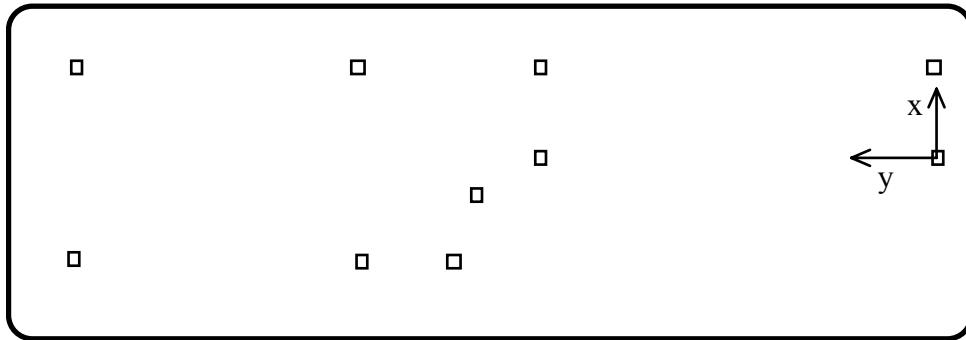

Figure 2.3. Key points in the x-y plane. Note that the view may be rotated in OSM.
Step 3: Enter the set of key points. The points can be added one at a time, or read from a file. If you wish to enter them one at a time, select the **Type in Points** menu button. The **Type In Points** dialog box is displayed. Enter the x, y and z coordinates for all of the points and select **Accept**. The points will be created and displayed (Figure 2.3); if the points do not appear on the screen, select **Show All Objects**.